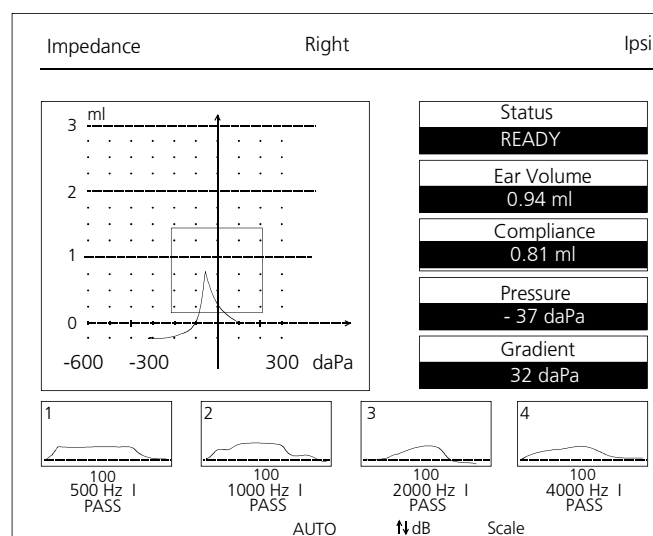

Figure 23 Example of a normal Tympanogram with ipsilateral reflex results
In addition to the Tympanogram shown on the left side and the values shown on the right, now you can see the results of the reflex measurement in the lower part of the display ⑤. In four boxes marked 1 to 4 the stapedius response is shown graphically. Below each box the test level, the test frequency, the type of the test (I=ipsi, C= contra lateral) are shown. Also the test result is shown as "PASS" or "FAIL". In the example in Figure 23 for 500 Hz a stapedius reflex was registered at 100 dBHL and for 4